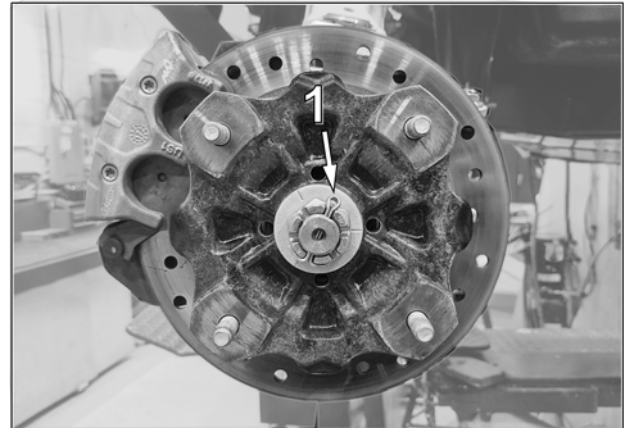

Fig. 20
- Make sure that the cotter pin locking the wheel hub's castle nut (1) will not interfere with the Track System hub during installation. There must not be any resistance when the Track System is installed on the vehicle's wheel hub. See Fig. 20